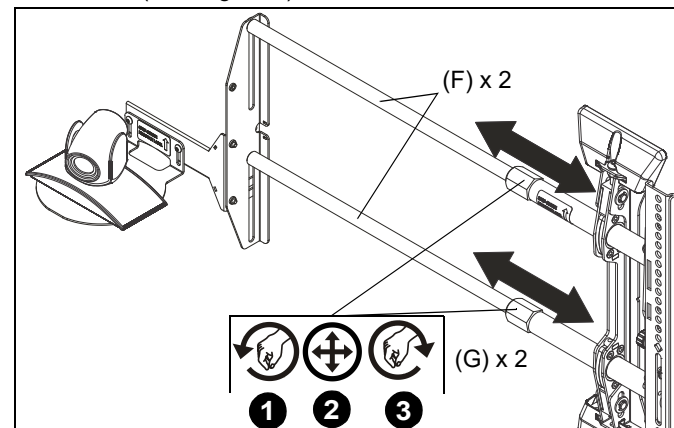

Figure 7
1. Loosen two bushings (G) connecting extension bars (F) to mount. (See Figure 7)
2. Adjust arm to desired length. (See Figure 7)
3. Tighten two bushings (G) until connection to mount is secure. (See Figure 7)